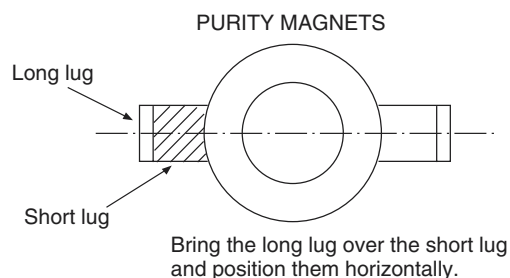

Fig. 2
6. Bring the long lug of the purity magnets on the short lug and position them horizontally. (Fig. 2)